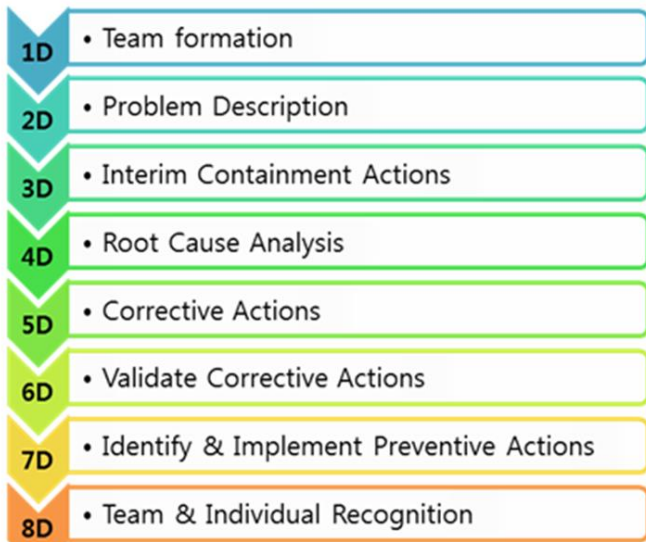

Figure 1: 8D Problem Solving Approach
- See Figure 1 on Page 2 of this Document